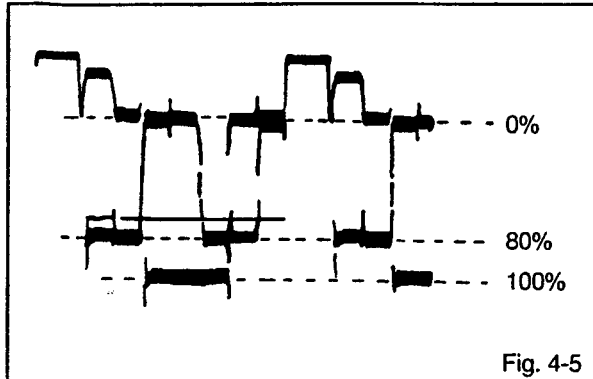

Fig. 4-5
5. Press the VOL. UP/DOWN key on the remote control until the red color level is adjusted to 80% of the white level. (Refer to Fig. 4-5)